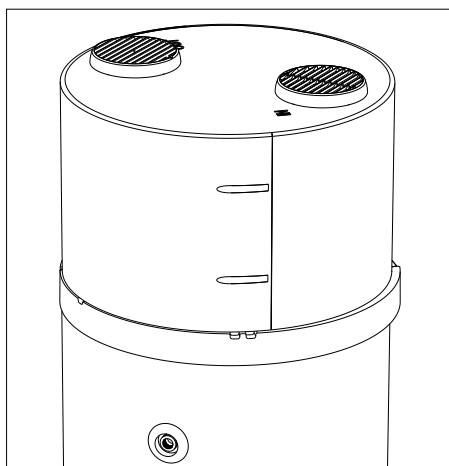

fig. 23
- Not ducted (“fig. 23” on page 80).